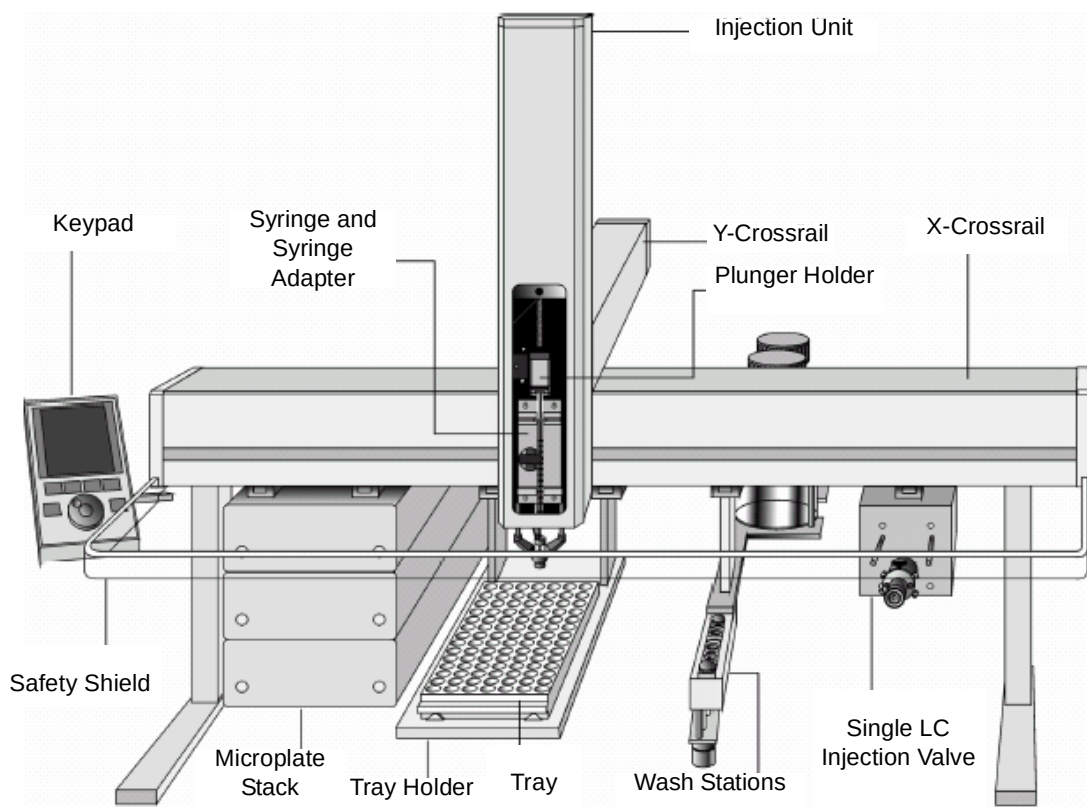

Figure 1-1 Standard 2777 Sample Manager
The Waters® 2777 and 2777C (Compact) Sample Manager is an XYZ robotic autosampler that enables you to perform automated sample handling with high-throughput screening for LC/MS (Figure 1-1 and Table 1-1). It can operate as a stand-alone instrument or as a part of a Waters MassLynx™ ZQ™ system. You can configure it as a single-valve unit or as a 4-valve module for parallel injections. It features chromatography front-end automation and a sample injection system especially designed for high-throughput applications in screening labs.
- Single-valve 2777 Sample Manager for analytical operations (Figure 1-1):